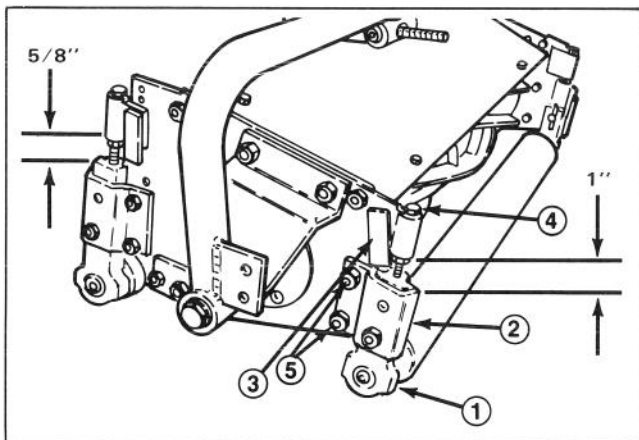

Figure 5
MOUNT FRONT ROLLER (Fig. 5) (Floating Cutting Unit)
REAR ROLLER (Fig. 5) (Floating Cutting Unit)
2. Slightly loosen (crack) nut securing each roller bracket to angle bracket (Fig. 5).
3. Adjust support capscrew to achieve $1'' \pm 1/16$ dimension between Height-of-Cut support and *front* roller bracket (2 places) (Fig. 5).
4. Adjust support capscrew to achieve $5/8'' \pm 1/16$ dimension between Height-of-Cut support and *rear* roller bracket (2 places) (Fig. 5).